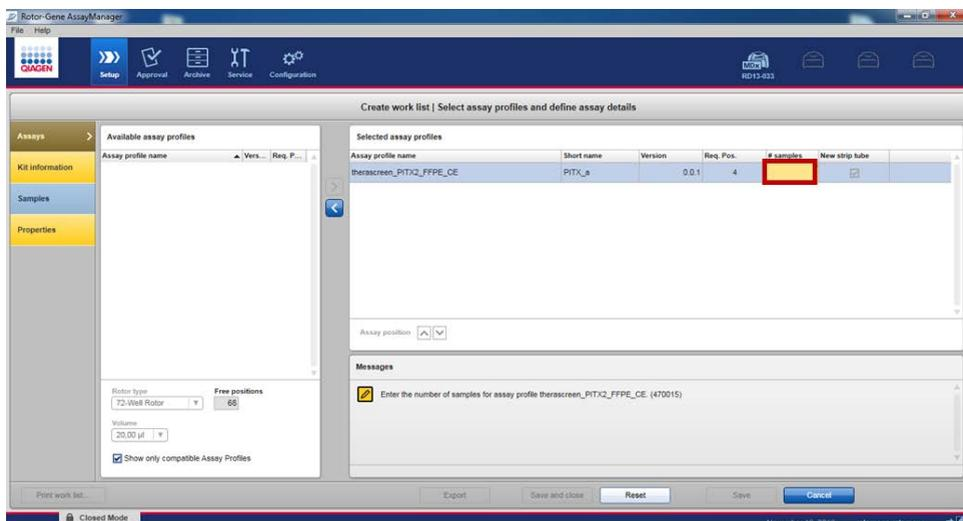

**Figure 8. Assay profile import.**
18. Select the PITX2 assay profile from the list of available assay profiles (Figure 8).
19. Transfer the selected assay profile to the list of selected assay profiles by clicking on the arrow (to the right of the assay profile name). The assay profile should now be displayed in the selected assay profiles list (Figure 8).